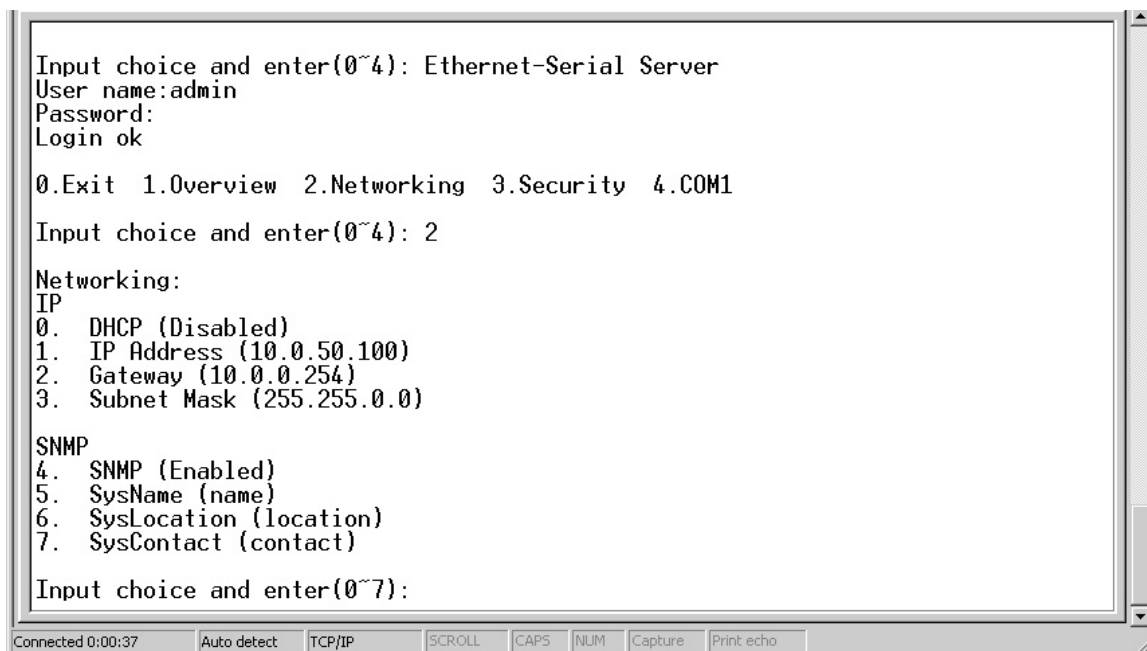

Figure 3.5 Main menu
1. After verifying the password, the following terminal screen appears.(Figure 3.5)